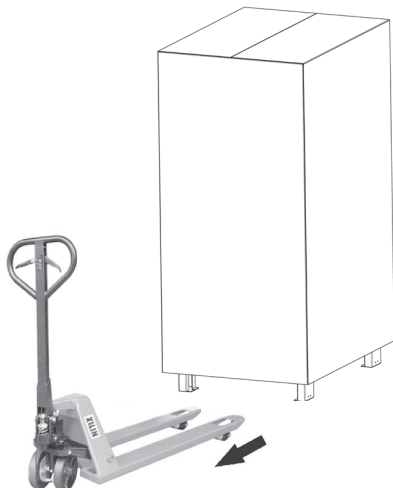
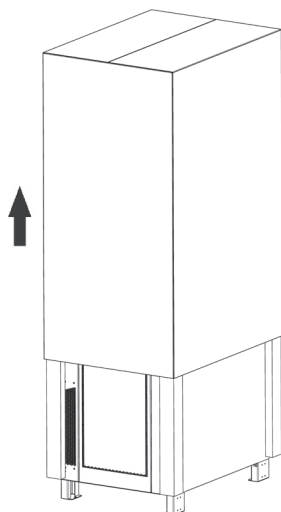
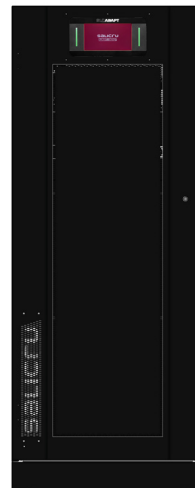

Fig. 19. Example of transfer of packed ADAPT 2 with pallet jack.
Fig. 20. Example of removal of cardboard box.
Fig. 21. Device unpacked by way of example.
- As an example, Fig. 19 to Fig. 21 show the illustrations corresponding to a 6-slot cabinet.
- To unpack the device, cut the straps of the cardboard box and remove it as if it were a cover (see Fig. 19 and Fig. 20) or disassemble it with the necessary tools if the casing is made of wood; remove the corner protectors and the plastic sheath.